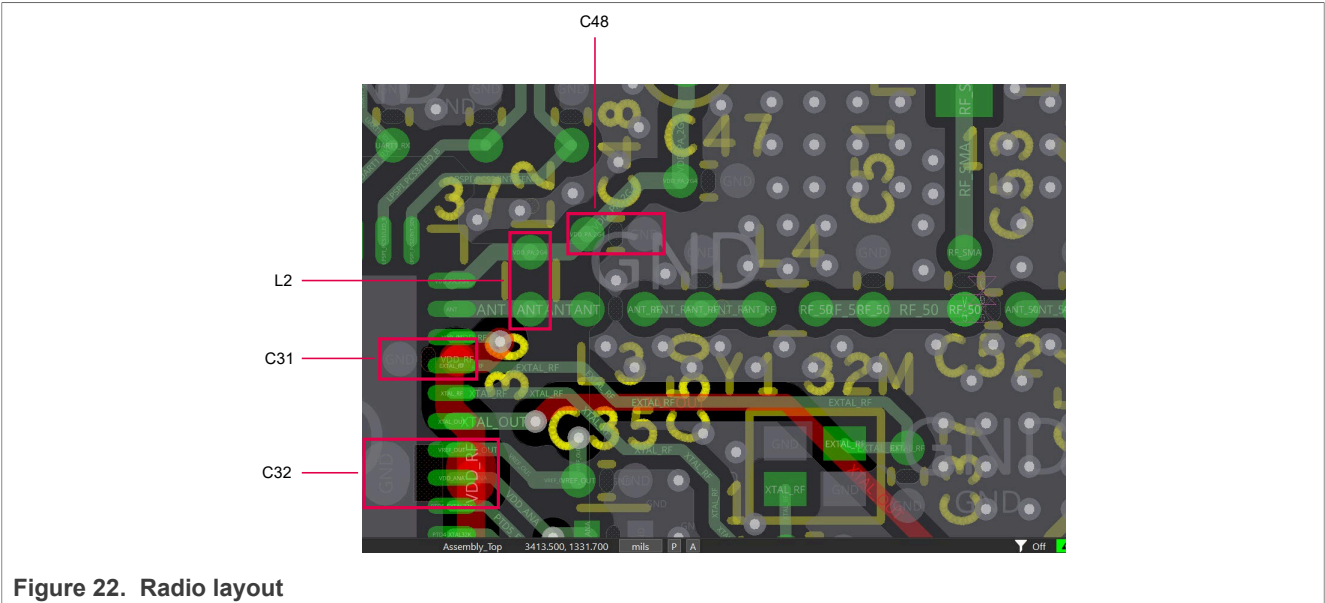

Figure 22. Radio layout
- Place the pull-up inductor L2 as shown in the example layout of Figure 22.
- To isolate the VDD_RF line from the ANT_RF line, use the 12 pF capacitor C31 as a shorting capacitor. To ensure proper isolation, keep your radio layout exactly the same as in the example layout of Figure 22
- The antenna-matching components must be placed near to each other and to the MCXW71 chip, as shown in Figure 22.